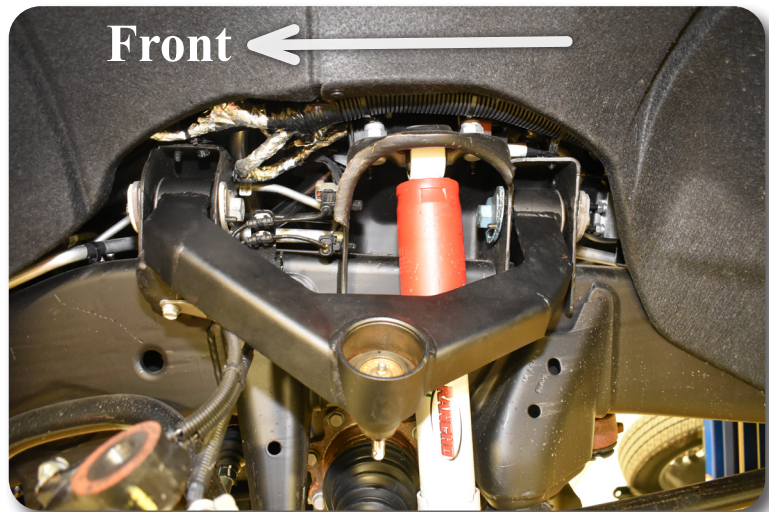

Figure 5 Driver Side Shown
The new upper control arms will have additional clearance to the droop limiter on the front control arm pocket. Verify the correct UCA is installed on the correct side by the raised area around the droop limiter. See Figure 5
10. Install new upper control arm assembly with factory cam bolts. Arms are side specific. Snug, but do not tighten at this time. Attach the upper ball joint to the steering knuckle with provided nut, washer, and cotter pin. Tighten the upper ball joint nut to 37 ft-lbs on the first pass and a final pass of 90-110 degrees. Install the cotter pin (do not loosen the nut to line up the cotter pin hole). Figure 5